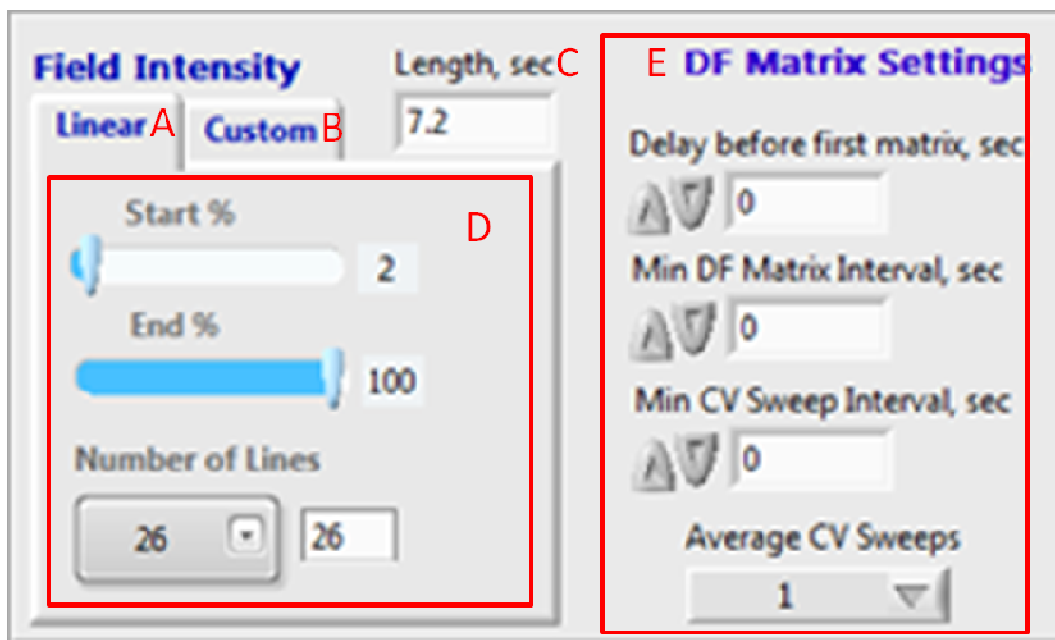
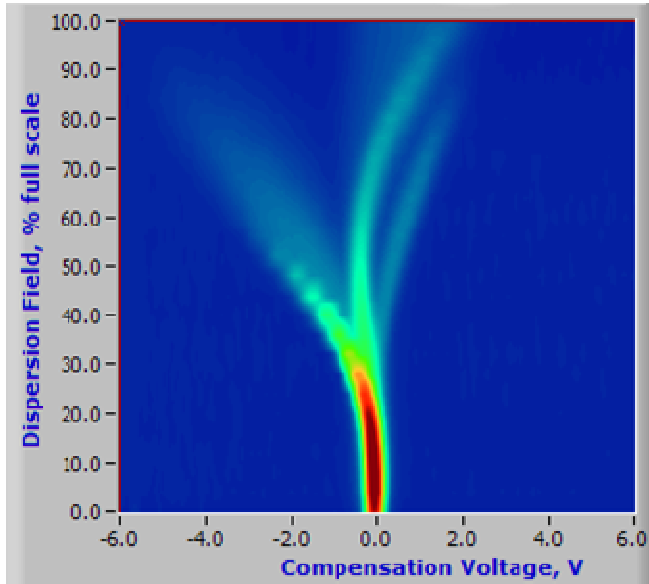

Figure 4 The DF Matrix Settings
Figure 5 An example DF Matrix
The DF Matrix in Figure 5 shows the Positive Mode chemical fingerprint of the chemical compound DMMP, with the Matrix covering the full Field Intensity range of 0% to 100% in steps of 2%. In Figure 4 (D), the Field Intensity range of 2% to 100% is being scanned in 26 lines (~4% steps). Typically 2% steps are used as this gives good DF difference between lines but not such a high difference that the analyte trajectories appear stepped. To calculate the number of lines required, use the following equation:
Scanning the Field Intensity between 0% and 100% in 51 lines are typical settings used during method development, where the full DF Matrix is to be evaluated. The time in seconds (C) is displayed. The values in Figure 4 (E) are the default values for the “Delay before first DF Matrix”, “Min DF Matrix interval” and “Min CV Sweep interval” when a configuration is first opened.
- **Min CV Sweep Interval, sec:** is also used as a means to facilitate charge dissipation. If the “Min CV Sweep Interval” is less than the time it actually takes to perform a CV Sweep, then the Lonestar® will simply operate as quickly as it can. If this is the case, you may run the risk of seeing timing inconsistencies between analyses if you are switching flows using the Split Flow Box. If the DF Matrix is taking longer than the predicted time, Figure 4 C, then the Min CV Sweep interval should be increased until the predicted time is greater than this DF Matrix time. Further DF Matrices should now take the same time as predicted.